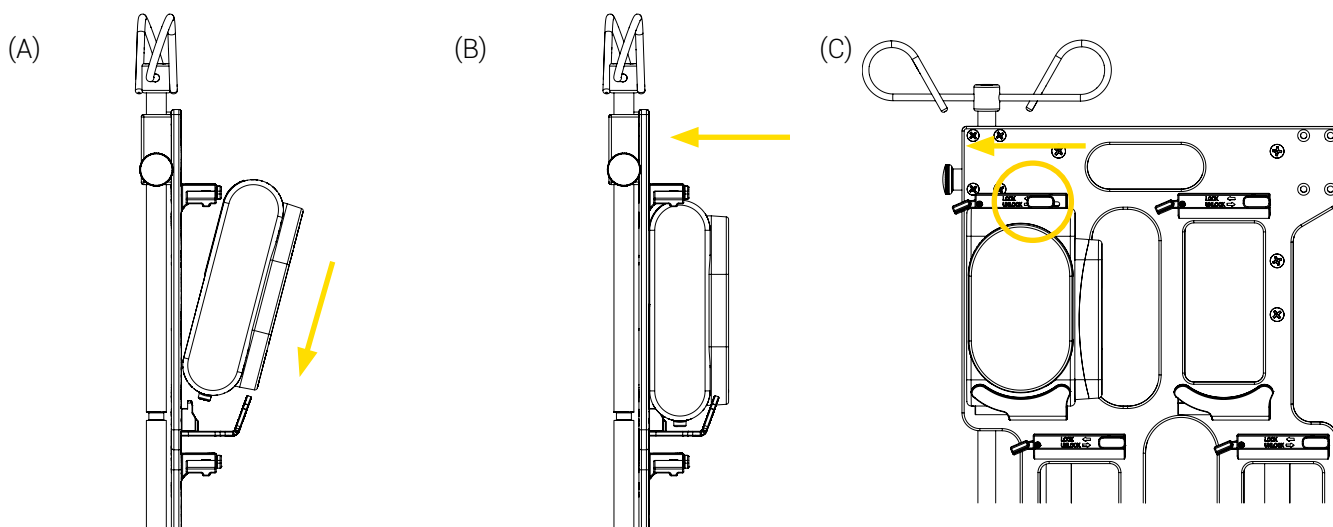

Figure 4: Installing the infusion pump (2 of 2)
3. Angle the pump and lean it against the front fold of the pump holder, aligning the cavities with the inserts at the bottom of the pump holder (Figure 4 A).
4. Tilt the pump in an upright position in the pump holder, until you hear the click sound of the quick release mechanism engaging (Figure 4 B).
5. Move the lock/unlock slider button to the left until you hear the click sound of the locking mechanism engaging (Figure 4 C).